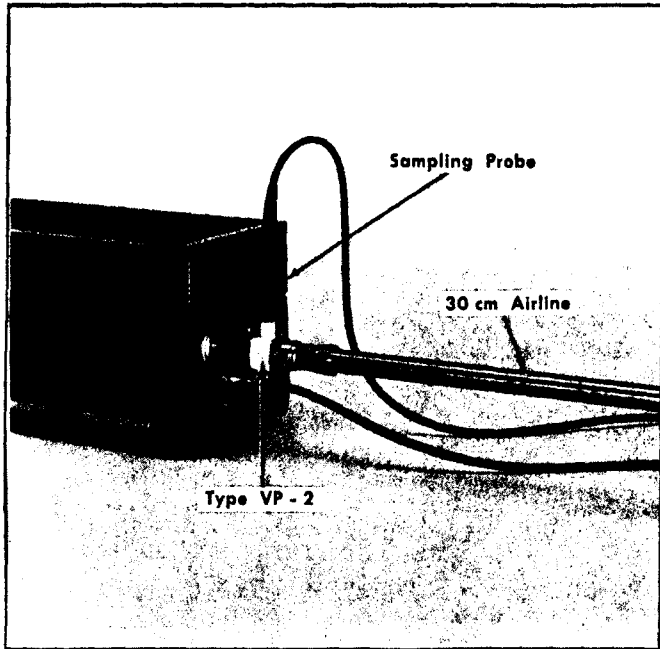
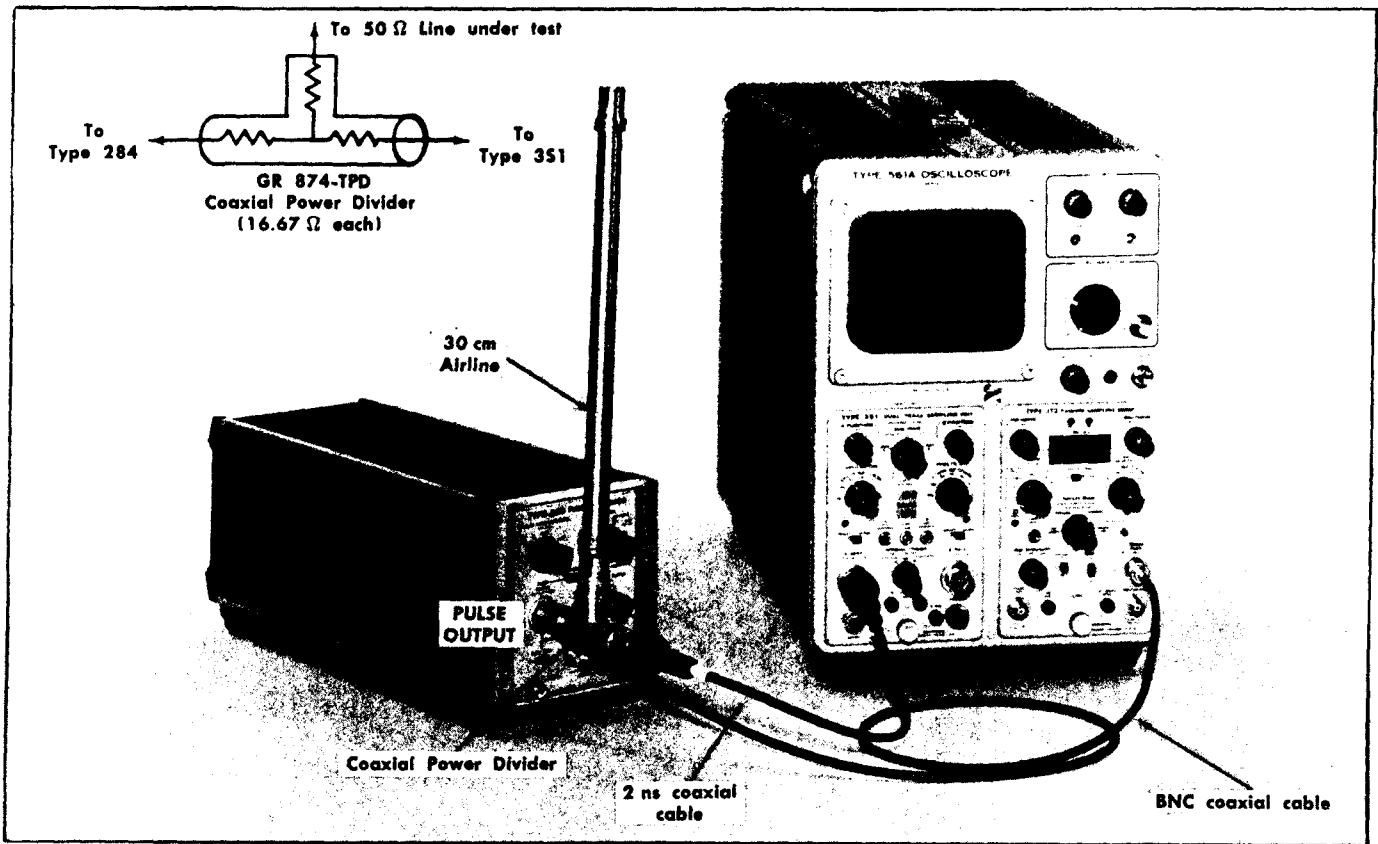

Fig. 2-26. TDR setup for P6038 Sampling Probe.
Fig. 2-29. TDR setup for 50  $\Omega$  Input Sampling oscilloscope.
**Using a Sampling Probe Unit.** Fig. 2-26 shows the Type 284 pulse output signal applied through a Type VP-2 voltage pickoff unit. The cable under test can be attached to the end of the 50 Ω reference 30 cm airline, or connected directly to the VP-2. As an initial setup example, the 30 cm airline is used and left unterminated.
**Using a 50 Ω Power Divider.** Calibrating a 50 Ω power divider TDR system is different than the Probe system described above. The fully 50 Ω sampling system requires an attenuator coupling device, such as the GR 874-TPD shown in Fig. 2-29. The signal losses in the power divider must be considered when adjusting the oscilloscope vertical deflection sensitivity to obtain a calibrated  $\rho$ /div deflection factor. The setup for this calibration is shown in Fig. 2-29. The power divider matches the Type 284 50 Ω output to both the oscilloscope 50 Ω input and the 50 Ω transmission line under test. The loss between any two of the power divider connectors is 6 dB (half voltage) when each connector has a 50 Ω circuit connected.
variable control is adjusted to display a transmission line length of one meter in ten divisions. The initial system includes a 30 cm airline on the test side of either the VP-2 or the Power Divider (as shown in Fig. 2-26 or Fig. 2-29). The 30 cm airline gives a "clean" time reference for the positioning of the oscilloscope display at the CRT graticule left edge.